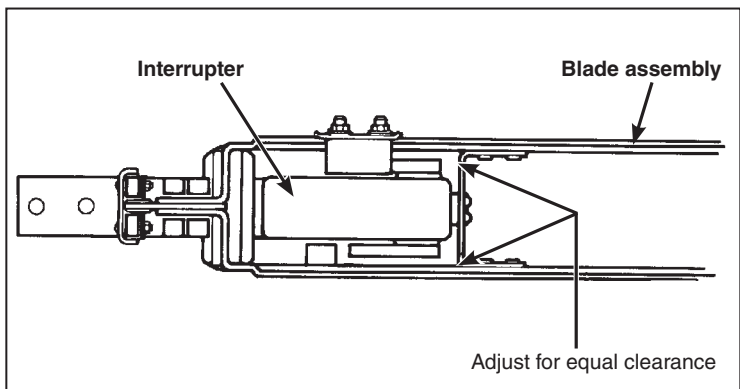

Figure 44. The blade assembly in fully Closed position.
- (d) The interrupter must lie in a plane parallel to the sweep of the blades, and the blades must pass over the interrupter with approximately equal clearance on both sides. See Figure 44.